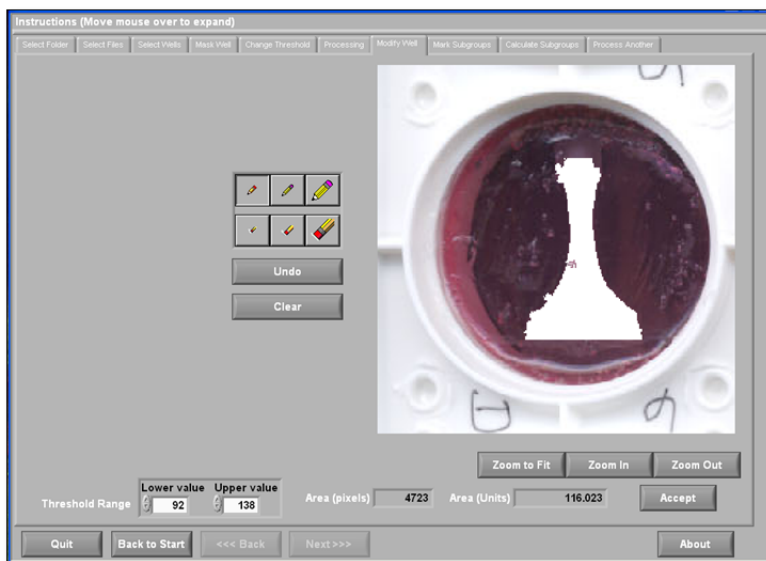

Figure 28. The processed well image prior to manual editing
- 1) A combination of adjusting the threshold range for a selected well image and utilizing the editing tools allows the freedom of pixilation creation or deletion (**Figure 28**). The threshold range for the selected well image may be adjusted using the *LOWER VALUE* and *UPPER VALUE*. The user may also *ZOOM IN* to sections of the image to ensure a higher quality pixel selection in a particular section of the chosen image. The *AREA (PIXELS)* and *AREA (UNITS)* are shown below the image window. The *AREA (UNITS)* are the units chosen by the user during the *CHANGE THRESHOLD* screen, either *pixels*, μm^2 , mm^2 , or cm^2 .